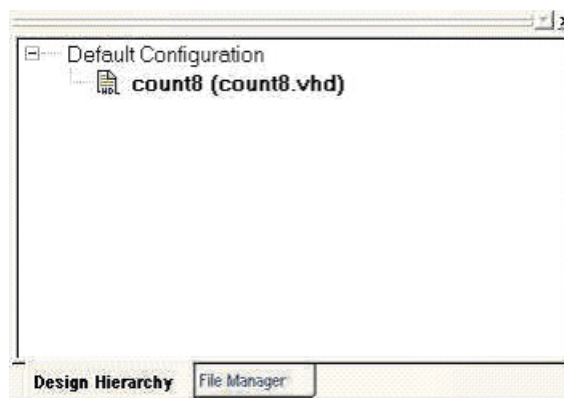

Figure 7-9 • Design Hierarchy
3. From the **File** menu, click **Save**. The design file counter appears in the Design Hierarchy. Libero IDE lists **count8.vhd** under HDL files in the File Manager, as shown in Figure 7-9.